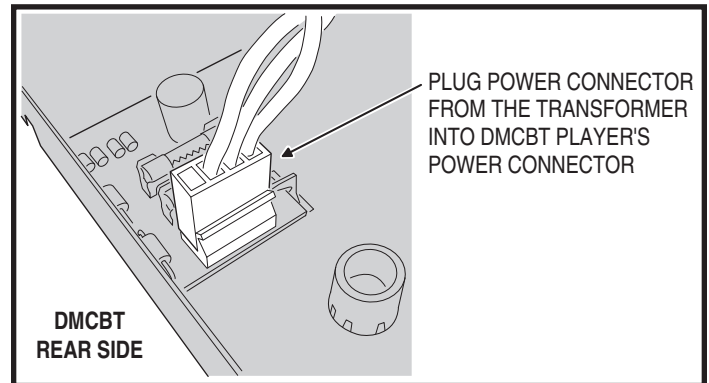

Figure 25. DMCBT Bluetooth Player Power Connection
9. Plug the connector from the TE2D power transformer in the wall housing to the DMCBT Bluetooth Player's POWER connector (see Figure 25).